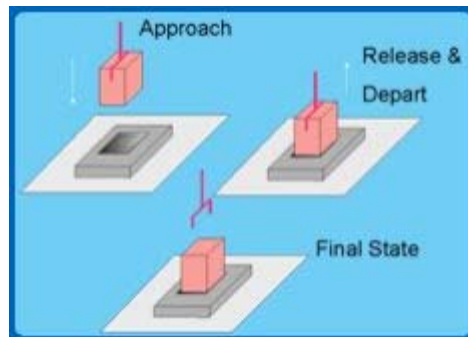

Figure 3.5.2: Assembly of parts
4. Assembly tasks are typically those which involve insertion of a peg into a hole. See Figure 3.5.2